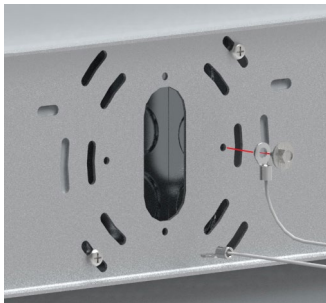

Figure 5
Secure the Safety Cable to the Mounting Plate using (1) #10x1/2 screw (see Figure 5).